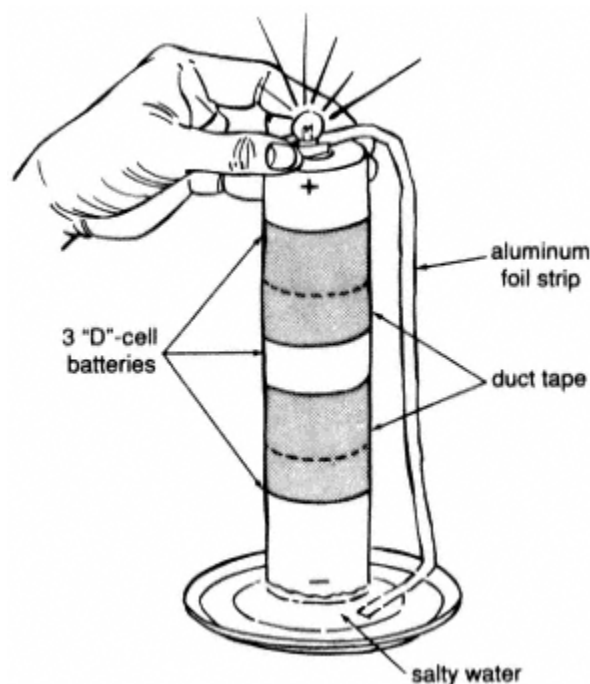

Figure 15.1
8. Lay the free end of the foil strip under the surface of the salty water in the bowl so that it is near, but not touching, the connected batteries (see Figure 15.1).